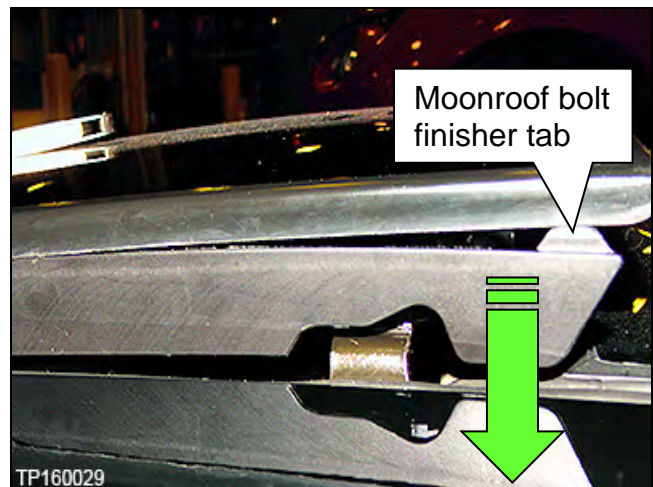

Figure 52
- b. Pull the moonroof bolt finisher tab (plastic tab) down and away from the moonroof and allow it to rest in the position shown in Figure 52.